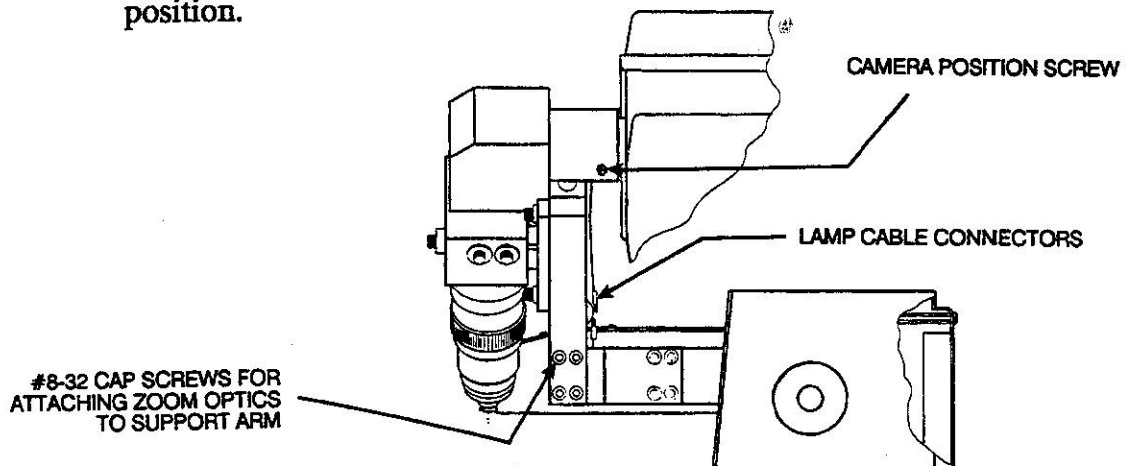

Figure B-1. Zoom Optics Installation
1. Mount Zoom Optics assembly to its support arm with four #8-32 cap screws (see Figure B-1). Register the assembly against the arm with the notch on the zoom bridge firmly against the support arm and the end of the support arm firmly against the plate on the zoom bridge. Plug lamp cable connectors together.
4. To adjust the camera so the image remains in focus during zooming, loosen the #8-32 cap screw (see Figure B-1) holding the camera and reposition it as necessary. Tighten screw.